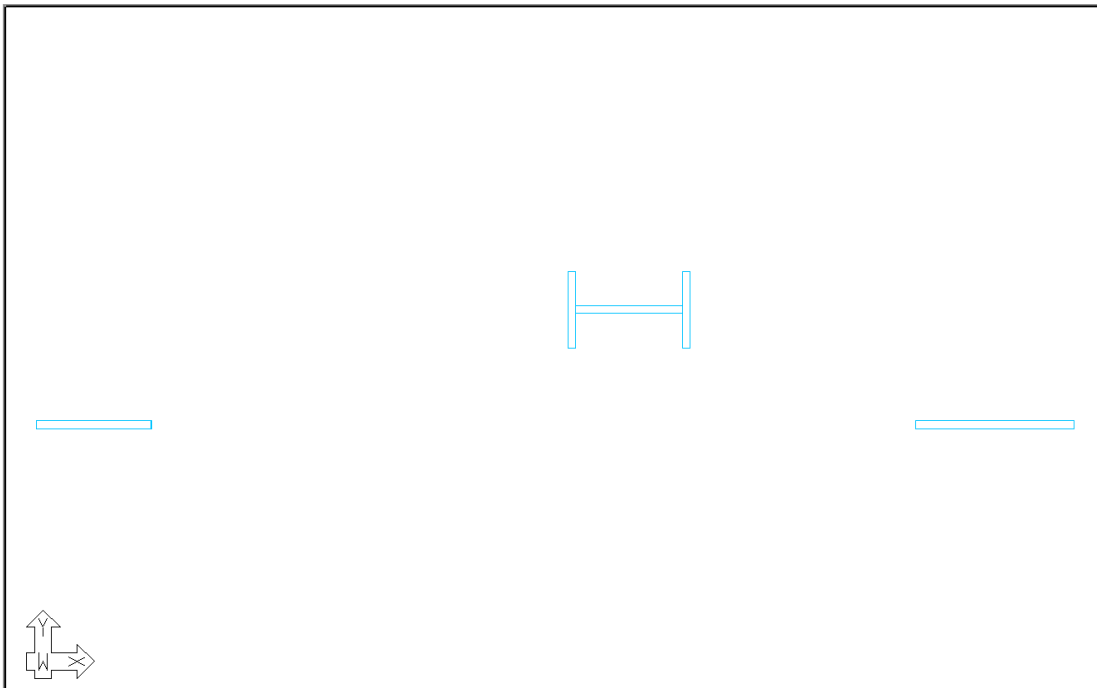

FIGURE 3-19
- Select the other wall and click **Delete** on your keyboard. After doing so we should have our lower walls input as shown in **FIGURE 3-19**.